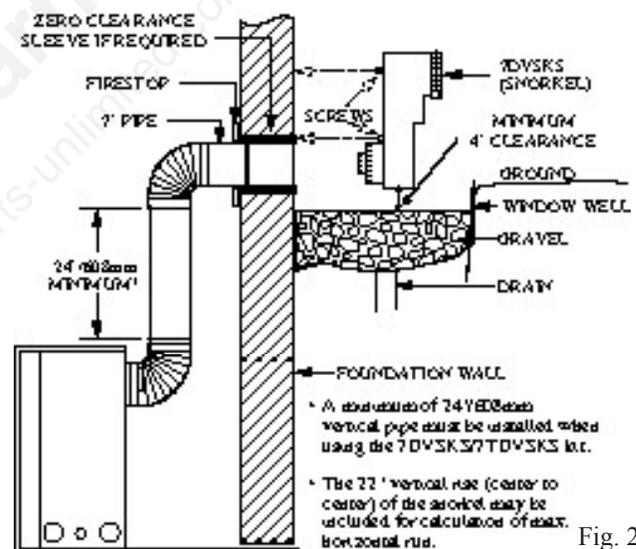

Fig. 27
- 2 Remove soil to a depth of approximately 16" (405 mm) below base of snorkel. Install drain pipe. Install window well (not supplied). Refill hole with 12" (305 mm) of coarse gravel leaving a clearance of approximately 4" (100 mm) below snorkel. (Fig. 27)
- 7 Level the soil so as to maintain a 4" (100 mm) clearance below snorkel. (Fig. 27)